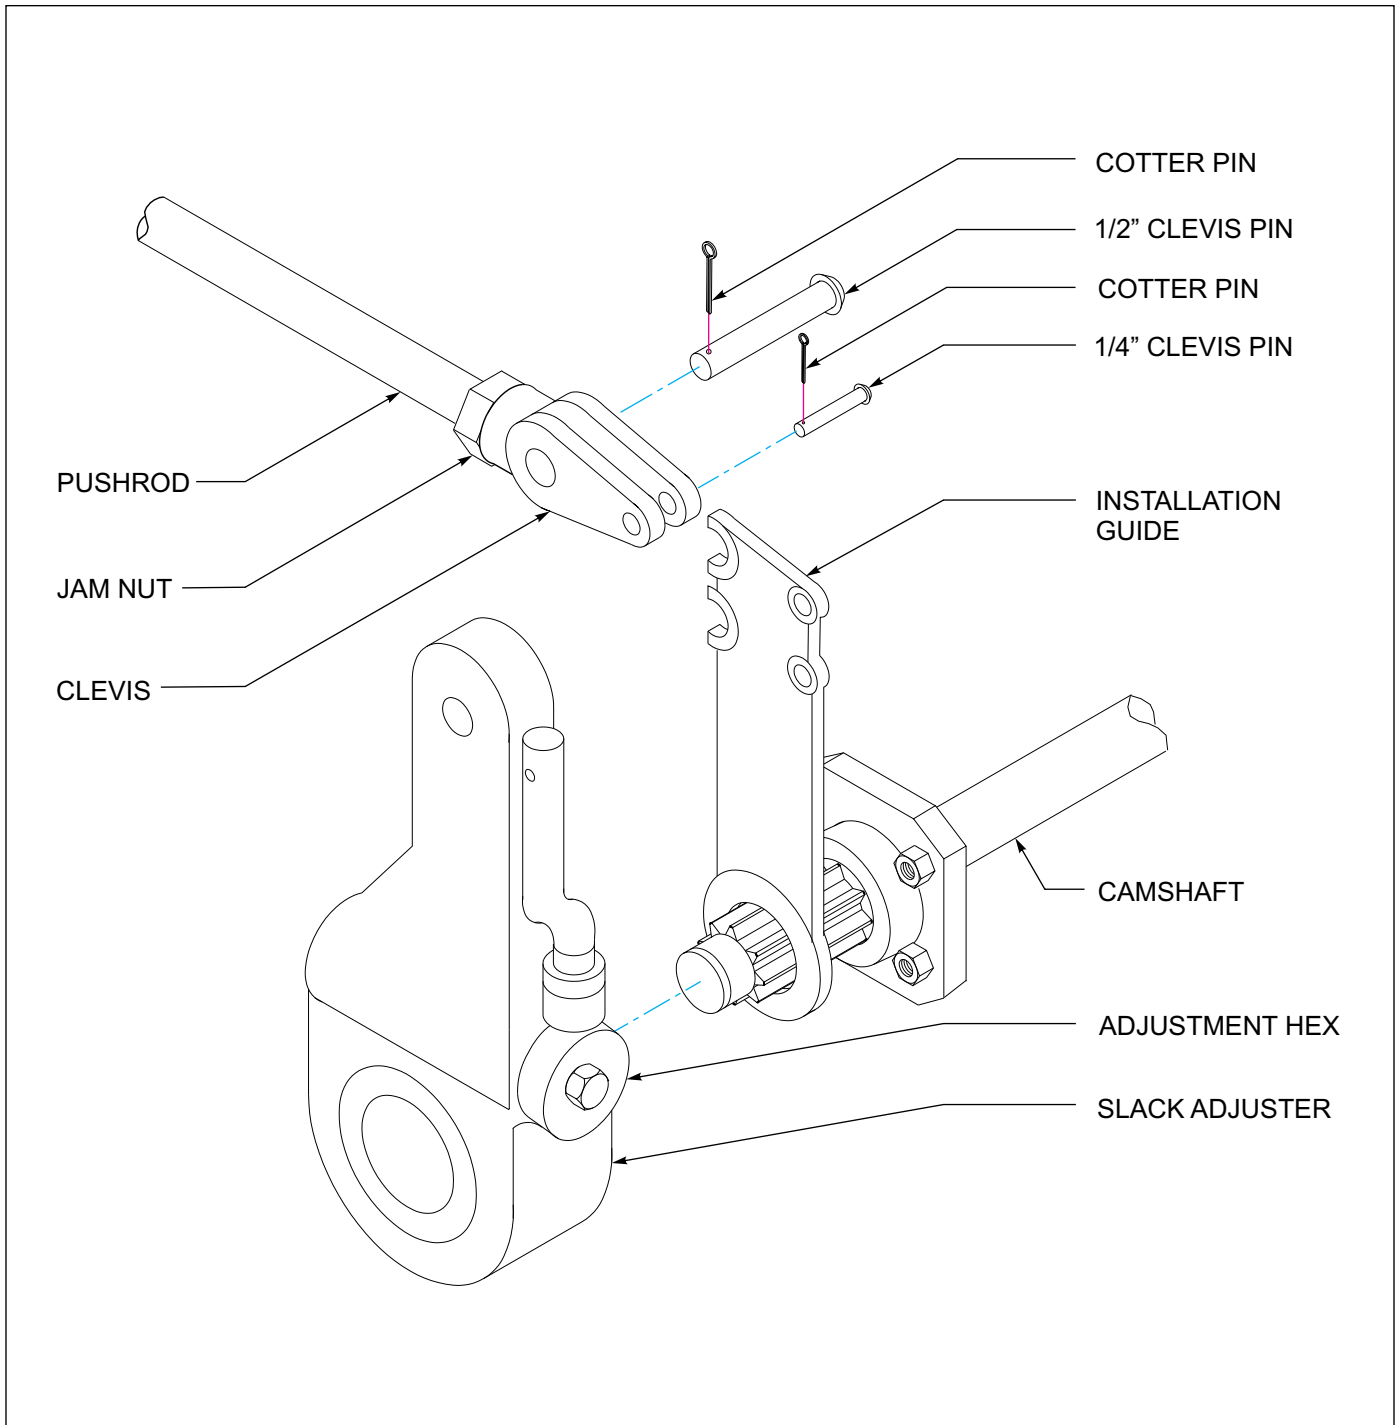

Figure 4-15: Slack Adjuster
4. Disconnect the slack adjuster from the connecting rod by removing the clevis pin (See Figure 4-15.)
4. Remount the brake chamber on the axle brackets and reconnect the air service hoses and the slack adjuster connecting rod (See Figure 4-15.)
2. Check that the push rod is fully retracted, apply air to release spring brake (See Figure 4-15.)
3. Remove the existing slack adjuster and clevis - **DO NOT REMOVE EXISTING JAM NUT (See Figure 4-15.)**